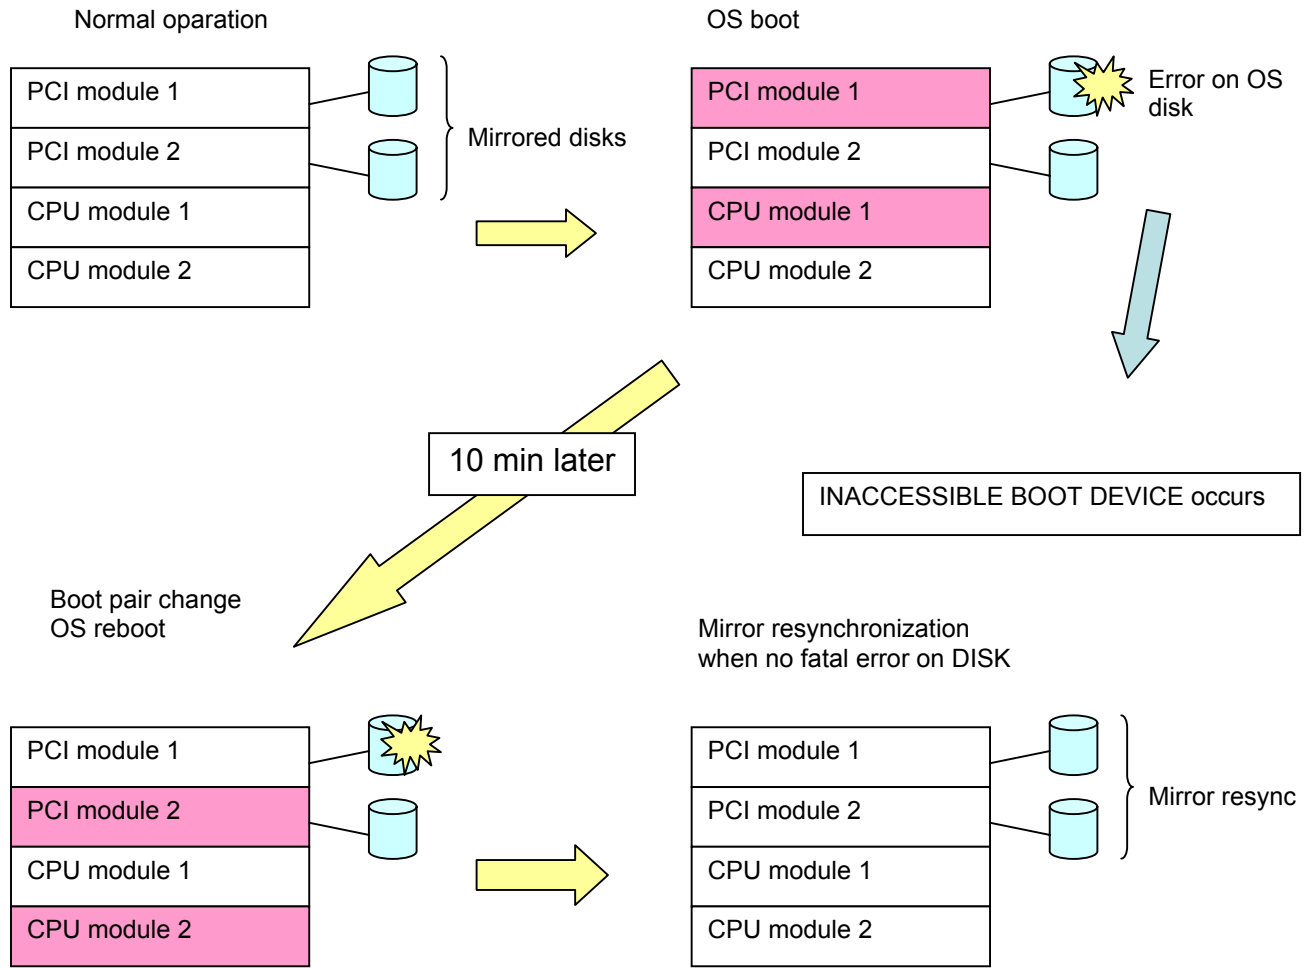

Figure 1. Image of boot pair change (example)
**Note:** Please refer to the Boot Pair Change Sequence example, Figure 1, on page 16.